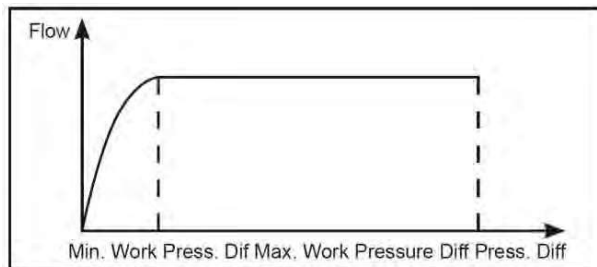

Figure 4
•  $\Delta P$ -Flow Curve shows that in the in the working  $\Delta P$  range, the flow rate stay the same (Figure 4).